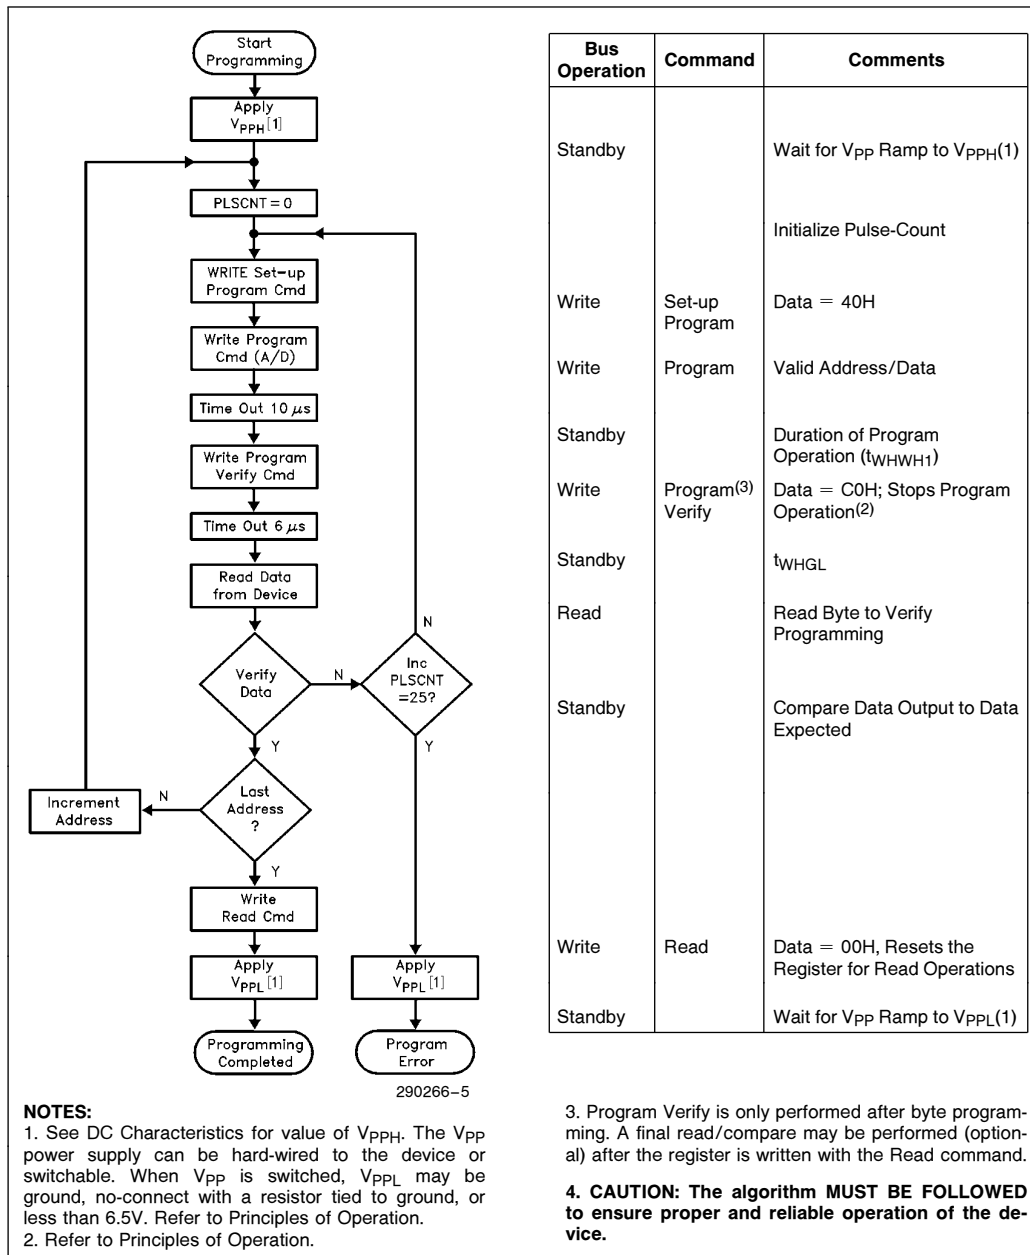

Figure 4. 28F010 Quick-Pulse Programming Algorithm
6. Figure 4 illustrates the Quick-Pulse Programming Algorithm.
The 28F010 applies an internally-generated margin voltage to the byte. A microprocessor read cycle outputs the data. A successful comparison between the programmed byte and true data means that the byte is successfully programmed. Programming then proceeds to the next desired byte location. Figure 4, the 28F010 Quick-Pulse Programming algorithm, illustrates how commands are combined with bus operations to perform byte programming. Refer to A.C. Programming Characteristics and Waveforms for specific timing parameters.
The Quick-Pulse Programming algorithm uses programming operations of 10 μ s duration. Each operation is followed by a byte verification to determine when the addressed byte has been successfully programmed. The algorithm allows for up to 25 programming operations per byte, although most bytes verify on the first or second operation. The entire sequence of programming and byte verification is performed with V_{PP} at high voltage. Figure 4 illustrates the Quick-Pulse Programming algorithm.